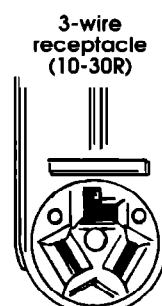

Figure 1
2. This dryer is equipped with a 30-amp-rated, flexible-type, power supply cord (pigtail). Where local codes permit, it must be plugged into a mating, 30-amp receptacle (NEMA Type 10-30R). (See Figure 1.)